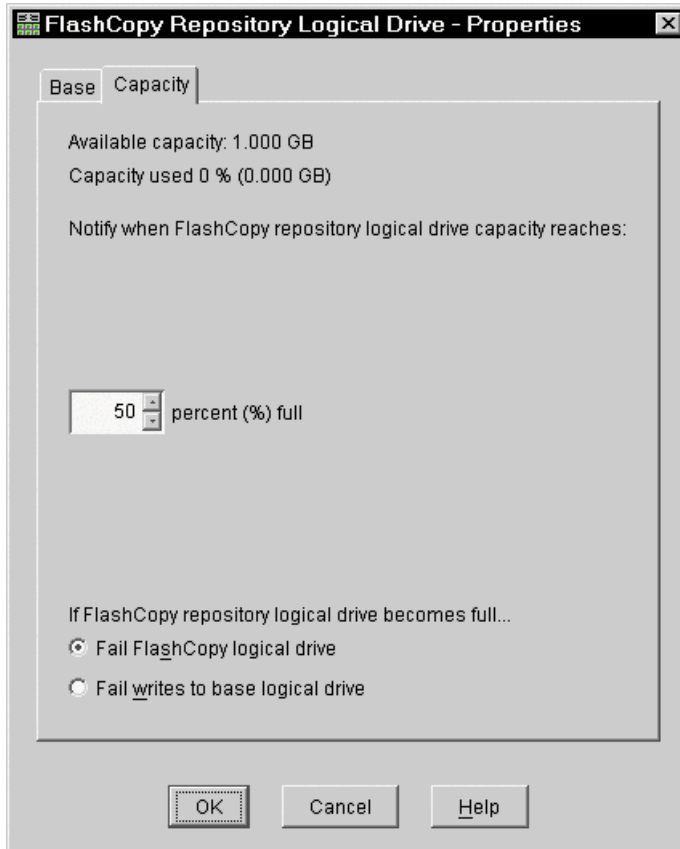

Figure 5-2 Repository Capacity settings
3. Select the **Capacity** tab (Figure 5-2) to view the currently defined settings.
7. In the Create FlashCopy Logical Drive Wizard: Specify Repository Capacity window, use the percentage (%) full box of base logical drive to set the estimated FlashCopy repository logical drive capacity (Figure 5-2 on page 144).